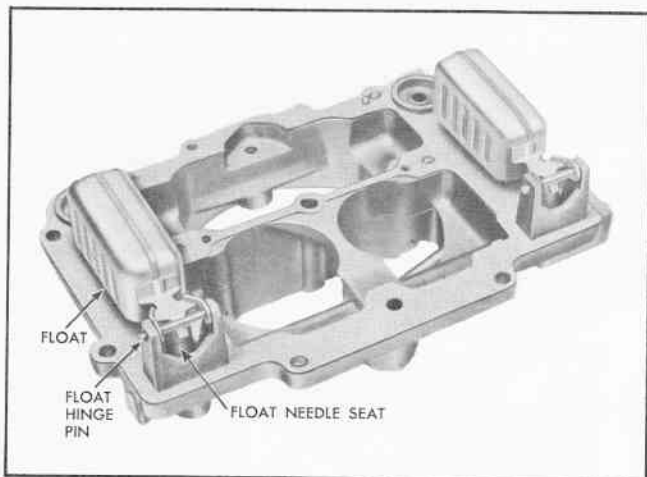

Fig. 10 Air Horn Assembly
12. Remove float hinge pin, float and float needle assembly on inlet side of carburetor (Fig. 10).